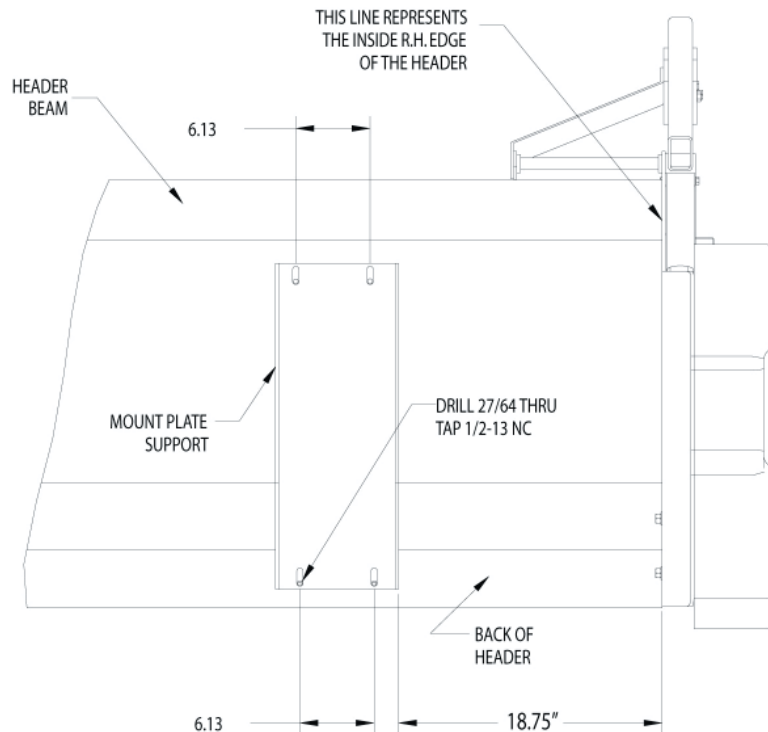

Figure 8, Mount support plate location
1. Line up the gearbox mount support plate 18.75" from the inside RH edge of the header according to Figure 8. The support plate mounts below the header beam.